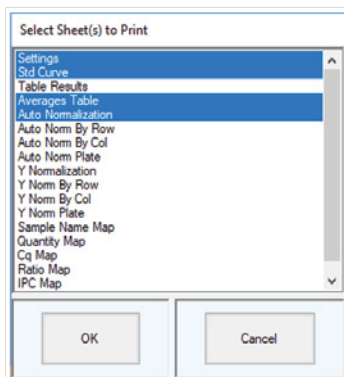

Figure 88. The 'Select Sheet(s) to Print' dialog box.
- A 'Select Sheet(s) to Print' dialog box appears (Figure 88).